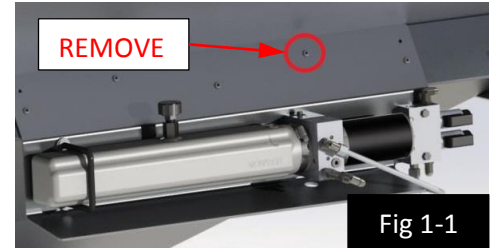

Fig 1-1
- Remove existing mounting bracket fastener. (See Fig 1-1)